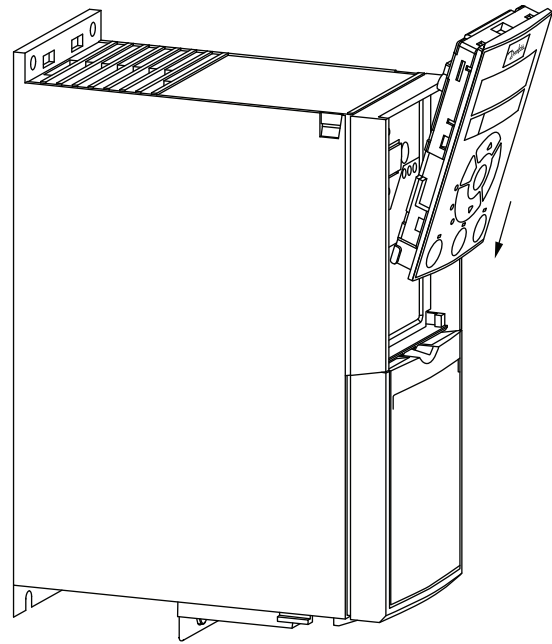

Fig. 54 — Align Bottom of VFD Keypad with Opening in VFD Front Panel
1. Place the bottom of the VFD keypad into the variable frequency drive as shown in Fig. 54.